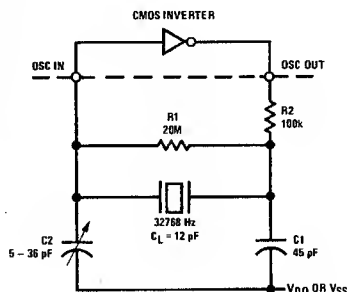

FIGURE 4. Crystal Oscillator Network
Note 1: In oscillator network shown in Figure 4.
**Time Base:** The precision time base of the watch is provided by connecting a crystal controlled RC network to the on-chip CMOS inverter/amplifier as shown in *Figure 4*. For proper operation, the network should be tuned to 32,768 Hz. Resistor R1 is used to bias the on-chip inverter for class A amplifier operation. Resistor R2 is used to (a) reduce the voltage sensitivity of the network; (b) limit the power dissipation in the quartz crystal; and (c) provide added phase shift for good start-up and low voltage circuit performance. Capacitors C1 and C2 in series provide the parallel load capacitance required for precise tuning of the quartz crystal. The network shown in *Figure 4* provides greater than 100 ppm tuning range when used with standard X-Y flexure quartz crystals trimmed for  $C_L = 13$  pF. Tuning to better than 2 ppm is easily obtainable.